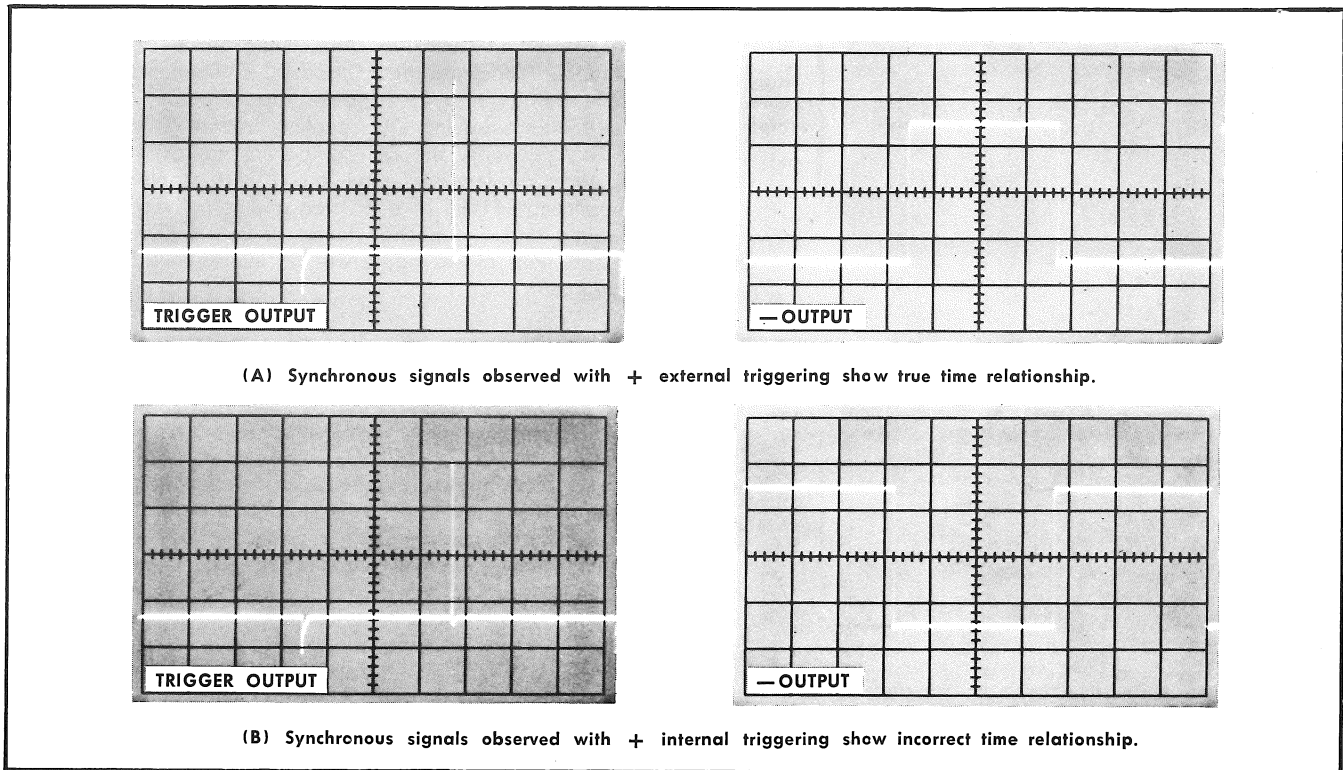

Fig. 2-13. Importance of external triggering for phase or polarity comparison. (Signals supplied by Tektronix Type 106 Square-Wave Generator.)
Phase and Polarity Relationships. When internal triggering is used, the signal slope displayed at the beginning of the sweep is dependent upon the trigger slope selected by the operator. If a comparison of phase or polarity is required, use external triggering and the same trigger source for the entire sequence of phase or polarity comparisons. The examples in Fig. 2-13(B) use + internal triggering and give the indication that the positive spike is coincident with the rising portion of the square wave. The examples given in Fig. 2-13(A) both use the same + external trigger source and show that the square wave actually goes negative at the time the positive spike occurs.